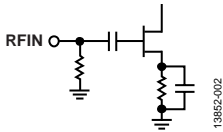

Figure 3. RFIN Interface Schematic
| 1 | RFIN | Radio Frequency (RF) Input. This pad is ac-coupled, but has a large resistor to GND for ESD protection, and matched to 50Ω. See Figure 3 for the interface schematic. |